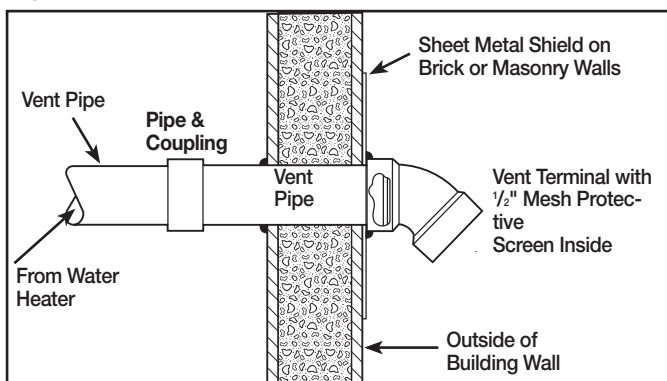
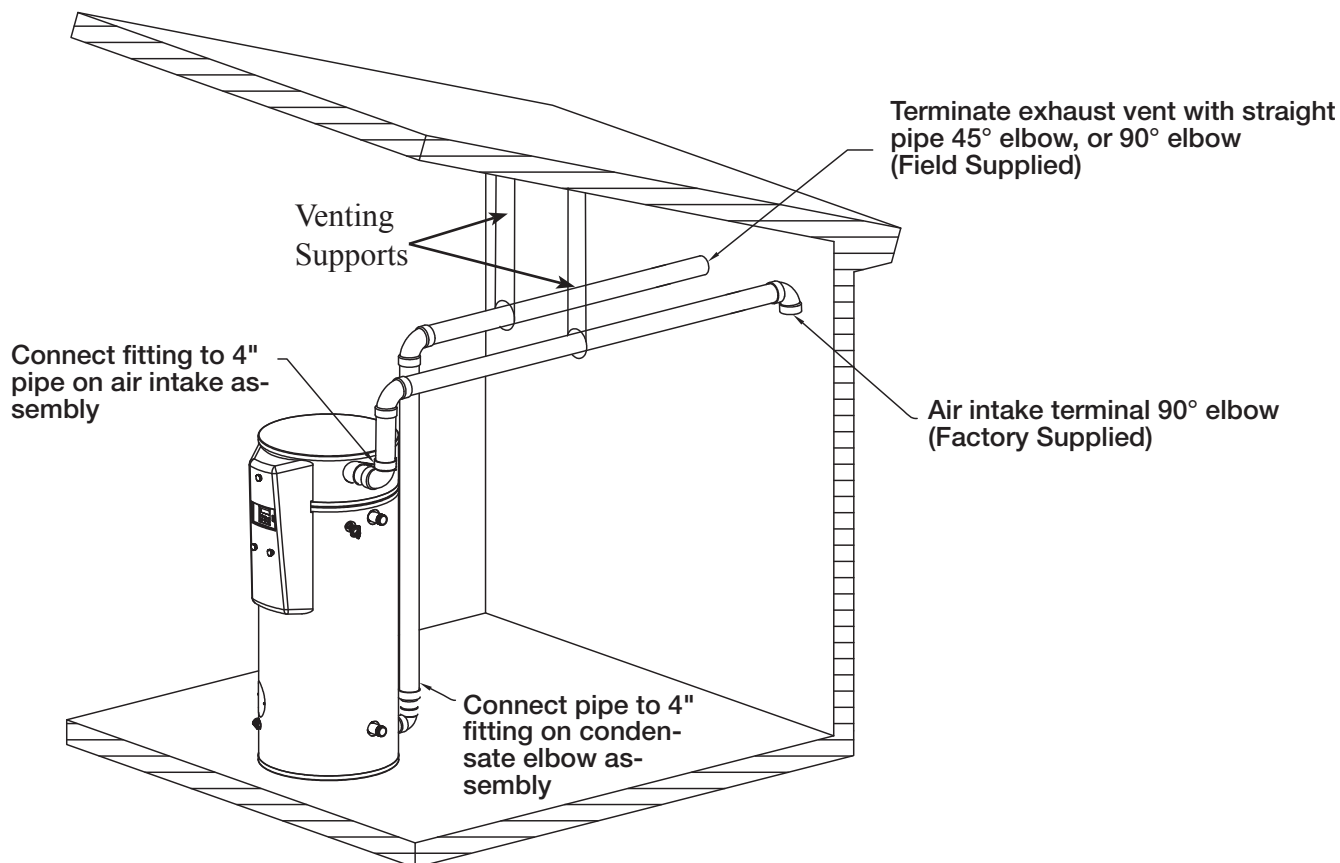

Figure 10 – Typical Horizontal Vent Installation
Figure: 12
Before starting the vent installation, careful planning should be given to the routing and termination of the vent pipes. The length of the vent pipes (inlet and outlet) should be kept to a minimum. Also, see Figure 10 for vent terminal placement. Refer to the venting charts on Table 4 & 5, for the pipe sizes that can be used and the total equivalent length of pipe that can be used. **DO NOT** exceed equivalent length of pipe in charts.
2. Use the proper PVC cement to secure the exhaust vent and air intake terminals provided with the water heater to the plastic pipes. The distance between the back edge of the exhaust vent terminal and the exterior wall (see Figure 10) must be 6 inches (12.7 cm) more for the exhaust vent terminal than the air intake terminal. Use the proper cement or sealant and assembly procedures to secure the vent connector joints between the terminal and the blower outlet. Provide support brackets for every 3 feet (.91 m) of horizontal vent beyond the intake terminal as seen in Figure 12.
3. **DO NOT** terminate vent pipe directly on brick or masonry surfaces. Use a rust-resistant sheet metal backing plate behind vent. (See Figure 10.)
5. Caulk all cracks, seams and joints within six (6) (1.83 m) feet of vent terminal.
**HORIZONTAL VENT INSTALLATION** – Once the vent terminal location has been determined, make a hole through the exterior wall to accommodate the vent pipe. Vent pipe must exit exterior wall horizontally only (See Figure 12).
Insert a small length of vent pipe through the wall and connect the coupling as shown in Figure 10. Connect terminal as shown to the vent pipe on the exterior of the building. Seal any opening around the vent pipe or fittings with mortar or silicone caulk as shown in Figure 10.
**VERTICAL VENT INSTALLATION** – Once the vent terminal location has been determined, make a hole through the roof and interior ceiling to accommodate the vent pipe. Complete the vent pipe installation to the water heater's vent connector fitting on the blower outlet. Support vertical or horizontal runs as previously mentioned (See Figure 12).
Install piping through the wall as shown in Figure 10 and 12. Adequate length of pipe must protrude beyond the exterior wall for attachment of the termination fitting. The recommended distance between the terminal fitting and the exterior walls is 6 inches (2.5 cm). Directions for cementing joints (such as the terminal fittings to the straight pipe) can be found on page 11. A single 90° elbow is supplied with the water heater for the termination fitting on the air intake. If other fittings are required they must be purchased separately. The supplied 90° elbow contains a protective screen to block foreign debris or small animals from entering the pipe. If a screen is preferred at the exhaust termination, it must have a low resistance to airflow. Refer to the type of screen used in the supplied elbow. A screen that significantly restricts airflow will reduce the performance of the water heater
and could cause nuisance control lockouts. Complete the installation of the remainder of the vent and air intake system and attach to the water heater as shown in Figure 12. Horizontal sections of the exhaust vent shall slope upward and away from the water heater a minimum of 1/8" per foot (10 mm per meter). This will allow the condensate in the vent to run back to the condensate drain on the water heater. Horizontal sections of air intake piping shall slope downward away from the water heater a minimum of 1/8" per foot.